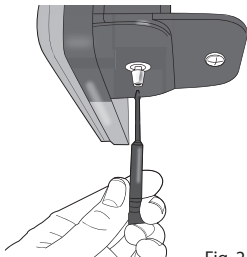

Fig. 2
2. Carefully insert the small screwdriver into the stem until resistance is felt; slowly turn the screwdriver, you will feel the screwdriver connect with the grooves in the adjustment mechanism in the clock, Fig 2.